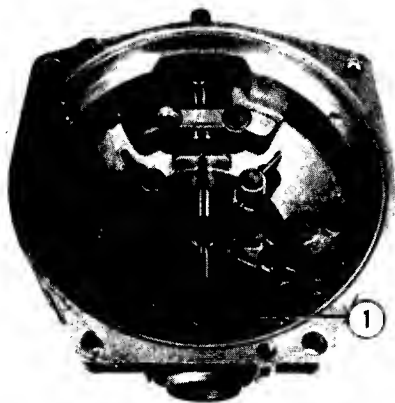

FIG. 4.53-CAM RING & CONTROL SHAFT
4. Inspect cam ring dowel pin, No. 1, Fig. 4.53, in aluminum body. If loose, body must be replaced.